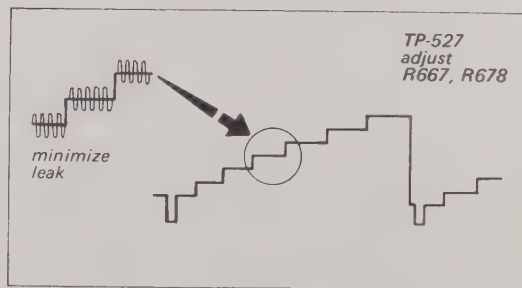

Fig. 8-8. Carrier balance
4. Adjust R667 and R678 for minimum beat at all levels of the signal. See Fig. 8-8.